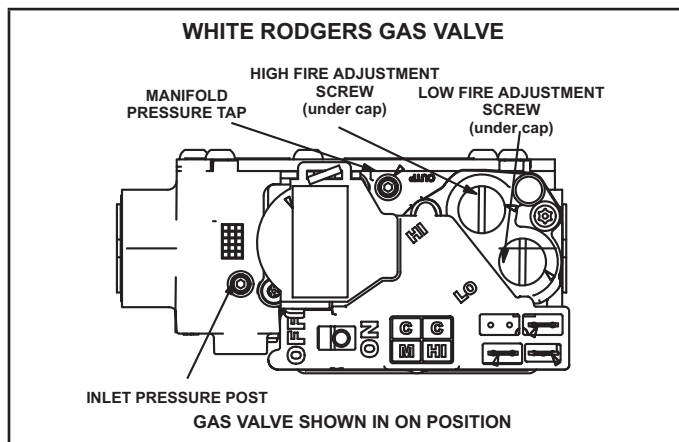
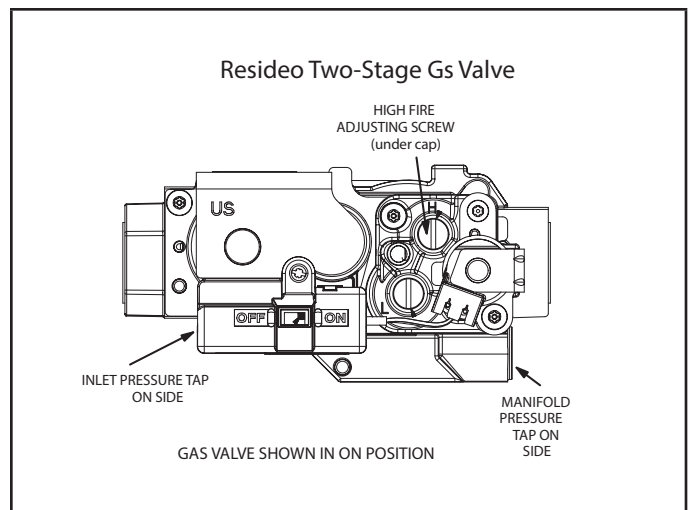

FIGURE 19
FIGURE 20
The valve (FIGURE 19 and FIGURE 20) is internally redundant to assure safety shut-off. If the gas valve must be replaced, the same type valve must be used.
- 6 - Turn switch on gas valve to OFF. Do not force. See FIGURE 19 and FIGURE 20.
- 9 - Turn switch on gas valve to **ON**. Do not force. See FIGURE 19 or FIGURE 20.
- 4 - Turn switch on gas valve to **OFF**. Do not force. See FIGURE 19 or FIGURE 20.
An inlet post located on the gas valve provides access to the supply pressure. See FIGURE 19. Back out the 3/32 hex screw one turn, connect a piece of 5/16 tubing and connect to a manometer to measure supply pressure. See TABLE 19 for supply line pressure.
A threaded plug on the inlet side of the gas valve provides access to the supply pressure tap. See FIGURE 20. Remove the threaded plug, install a field-provided barbed fitting and connect a manometer to measure supply pressure. See TABLE 19 for supply line pressure. Replace the threaded plug after measurements have been taken.
- 1 - Connect test gauge to manifold pressure tap (FIGURE 19 and FIGURE 20) on gas valve.
- 4 - If necessary, make adjustments. FIGURE 19 and FIGURE 20 show location of high fire and low fire adjustment screw.